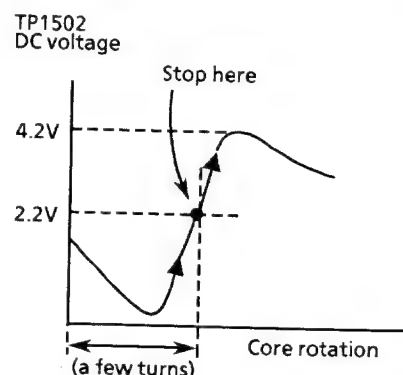

Figure 2-15
- (4) Disconnect the antenna and change the TV channel to another then return to the channel received in above Step (1). Reconnect the antenna to the unit. (The TV picture may lose color and sound.)
- (5) Look the voltmeter (or oscilloscope) and slowly turn the core counterclockwise.
- (6) Stop the core when the meter reads 2.2 volts DC. (See Figure 2-15.)
- (7) Change the TV channel to receive other broadcasts and make sure that the TV picture on the monitor screen is always nice with a good color without beat pattern also the sound is clear. (The voltage meter will read approximately 2.2 volts DC when the unit tunes to a good broadcast.)
- (8) If the voltage reading is out of specified value, finely adjust the core and repeat step (7).